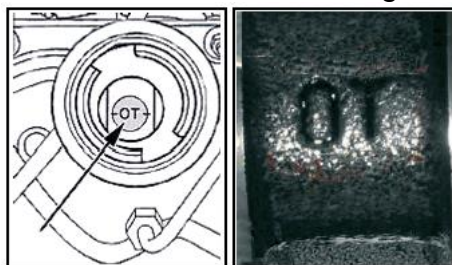

Fig. 3
- 1) Turn the engine clockwise until the 'OT' marking of the camshaft is centered, seen through the oil filling hole (oil filler cap removed) (Fig 3).